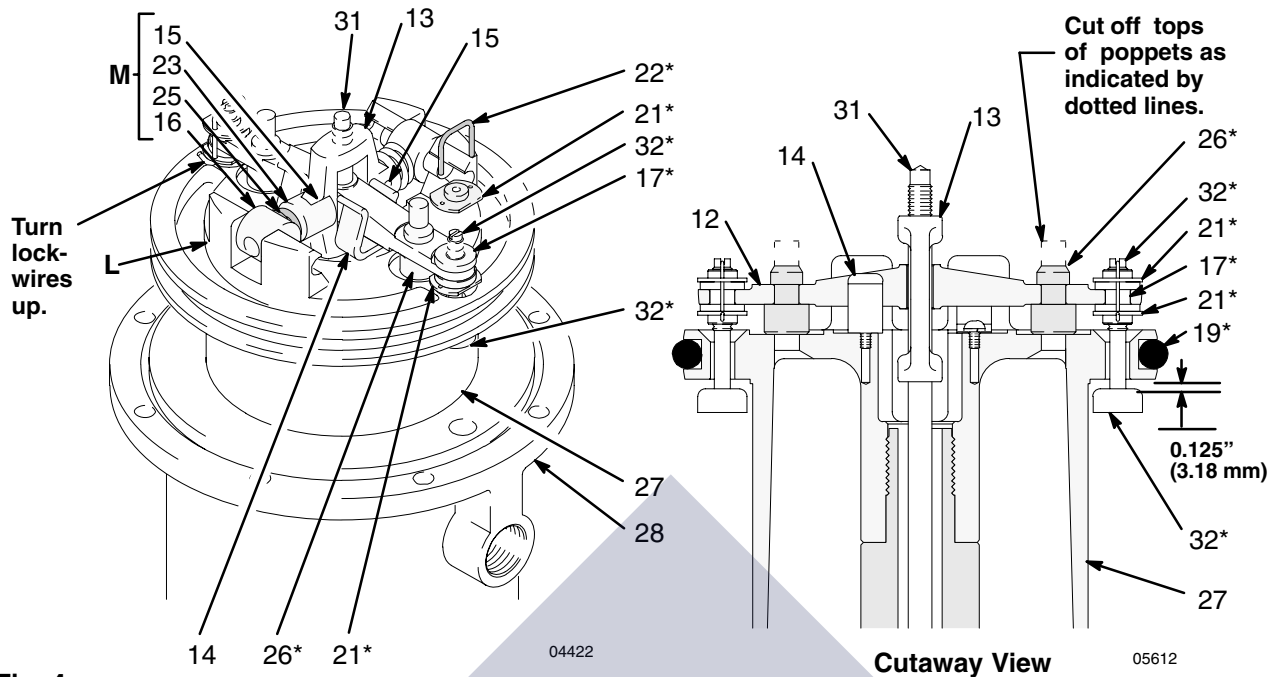

Fig. 4
10. Pull the piston assembly from the air motor base (28), and set it aside.
11. Remove the throat bearing (36) with a 2-in. socket, remove the u-cup seal (10†), and wipe the seat clean with a cloth.
14. Use a screwdriver to push down on the trip rod yoke (13), and snap the toggles down. See Fig. 4.
15. *In this step, while you are prying with the screwdriver with one hand, cover the toggle assemblies with your other hand so as to catch the spring-loaded toggle assemblies when they snap out of the lugs.* Place the tip of a screwdriver into the piston between the piston lugs (L) below the pivot pins (16) on the toggles, pry up with the screwdriver handle to compress the springs on the toggle assembly (M) up and away from the piston lugs, and remove the parts. See Fig. 4.
16. Straighten the lockwires (22\*) and remove them from the valve nuts (21\*). Screw the top nuts off. Remove the trip rod yoke (13), actuator (12), and trip rod (31). Unscrew the bottom nuts (21\*), and remove the poppets. Make sure the valve bar spring clips (14) are not worn or damaged and that they properly guide the actuator (12).
17. Remove the exhaust valve poppets (26) by cutting them with a side cutter, then pull them out of the actuator (12).
(M in Fig. 4 ) up or down.
- Place the piston rod (29) flats in the vice with the air motor up.
- Pull the exhaust valve poppets (26\*) into the valve actuator (12), and clip off the top parts of the poppets (shown with dotted lines in the **Cutaway View** in Fig. 4).
- Install the grommets (17\*) in the actuator (12), place the inlet valve poppets (32\*) in the piston, and thread the bottom valve nuts (21\*) onto the inlet valve poppets until there are a few threads left before the threads run out.
- Grease heavily and place the trip rod (31) in the piston, place the actuator (12) in the yoke (13), and place the well-greased actuator/yoke assembly in the piston, with the trip rod going through the center holes of the actuator and yoke and the inlet valve poppets (32\*) going through the grommets (17\*).
- Install the toggle pins (15) in the yoke (13), place the toggle arm (23) ends of the toggle assembly (M) onto the toggle pins, and snap the pivot pin (16) ends of the toggle assembly into the lugs (L).
- Measuring with the gauge (Part No.171818), create 0.125-in. (3.18 mm) of clearance between the inlet valve poppets (32\*) and the piston seat when the inlet valve is open. See the **Cutaway View** Fig. 4.